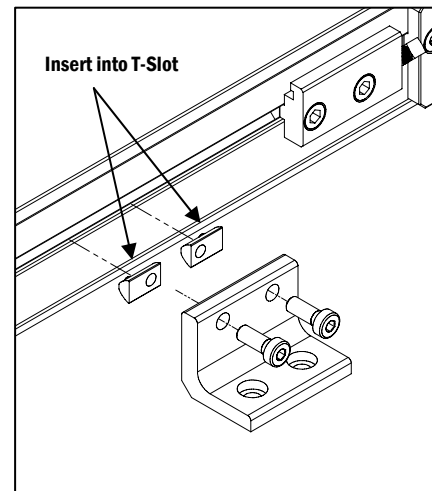

Figure 1
b. Insert the Drop In Nuts into the T-Slot in the conveyor frame. Line up the Flush Mount to the Drop In Nuts, insert the M6 Socket head Cap Screws through the mount and fasten to the frame (Figure 1).